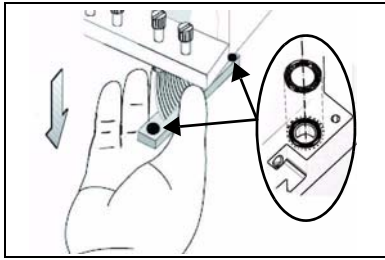

Figure 6-62: O-ring seals on the print head
13. Inspect the replacement head, and make sure that the O-ring seals are in place (see figure 6-62).